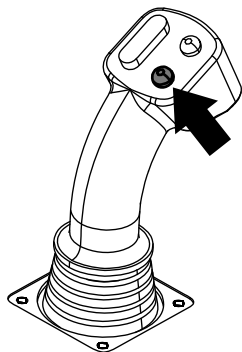
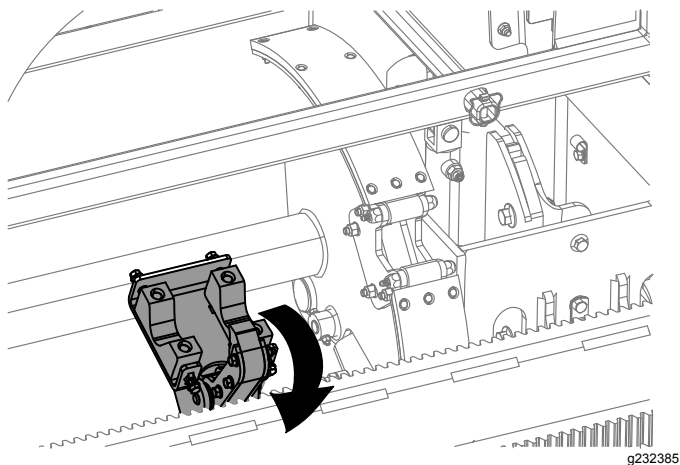

Figure 36
Figure 37
10. Hold the lower button on the joystick (Figure 36) to release the pipe (Figure 37) and release the button.